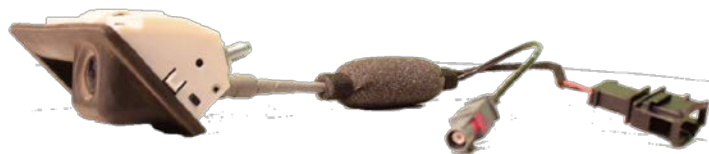

Figure 5. Completed reverse camera assembly with new electrical harness.
7. Reinstall the completed reverse camera assembly, following instructions as outlined in the Elsa repair manual for the specific vehicle (Figure 5).